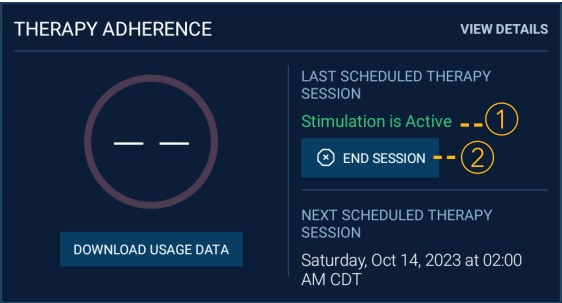

Figure 33. Therapy Adherence panel when stimulation is active
During an active session, the dashboard will show “Stimulation is Active” in the Therapy Adherence panel (Figure 33 -①).
- Tap **END SESSION** on the Therapy Adherence panel (Figure 33 -②).